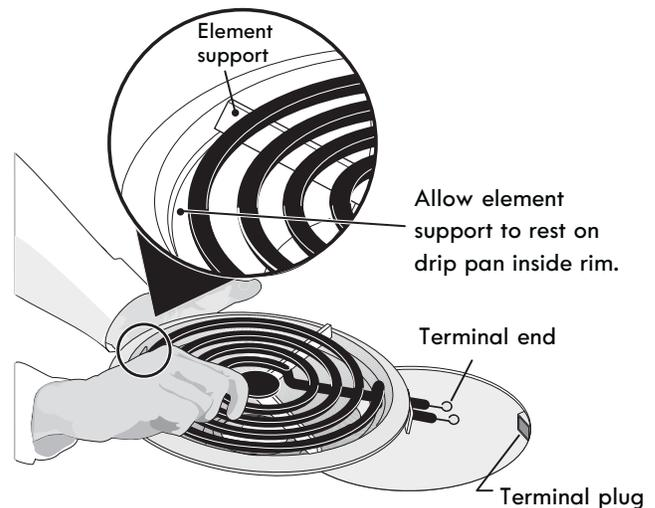

Figure 19: Removing surface elements and drip bowls
2. While holding the drip bowl and surface element, gently pull the terminal end out from terminal plug (See Figure 19).
1. Slide the terminal end on the surface element through the opening in the drip bowl (See Figure 19).
3. After the surface element is positioned in the drip bowl, line up the terminal end with the terminal plug as shown (See Figure 19).